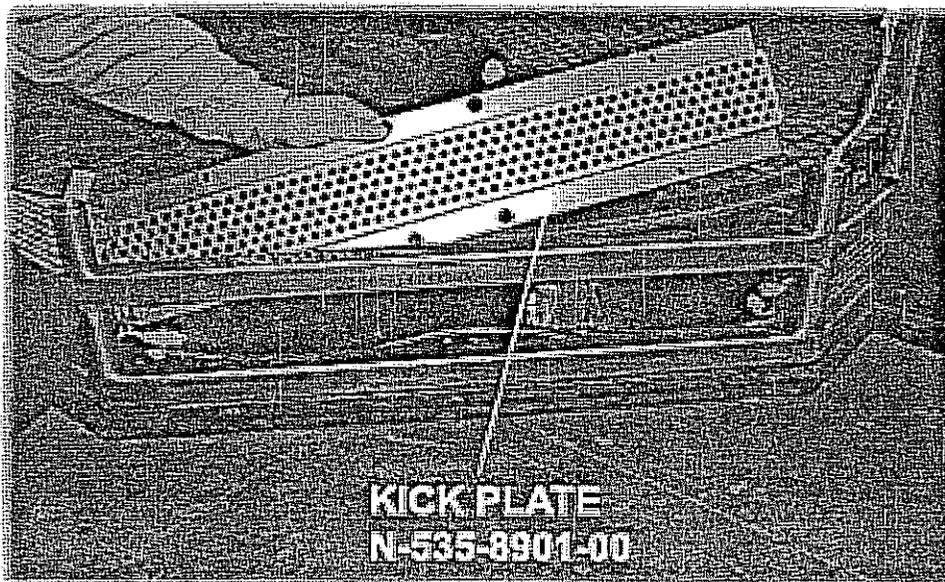

Figure 31
5. Reinstall flashing, kick plates, neon lights and floor plates previously removed. (See figure 31).